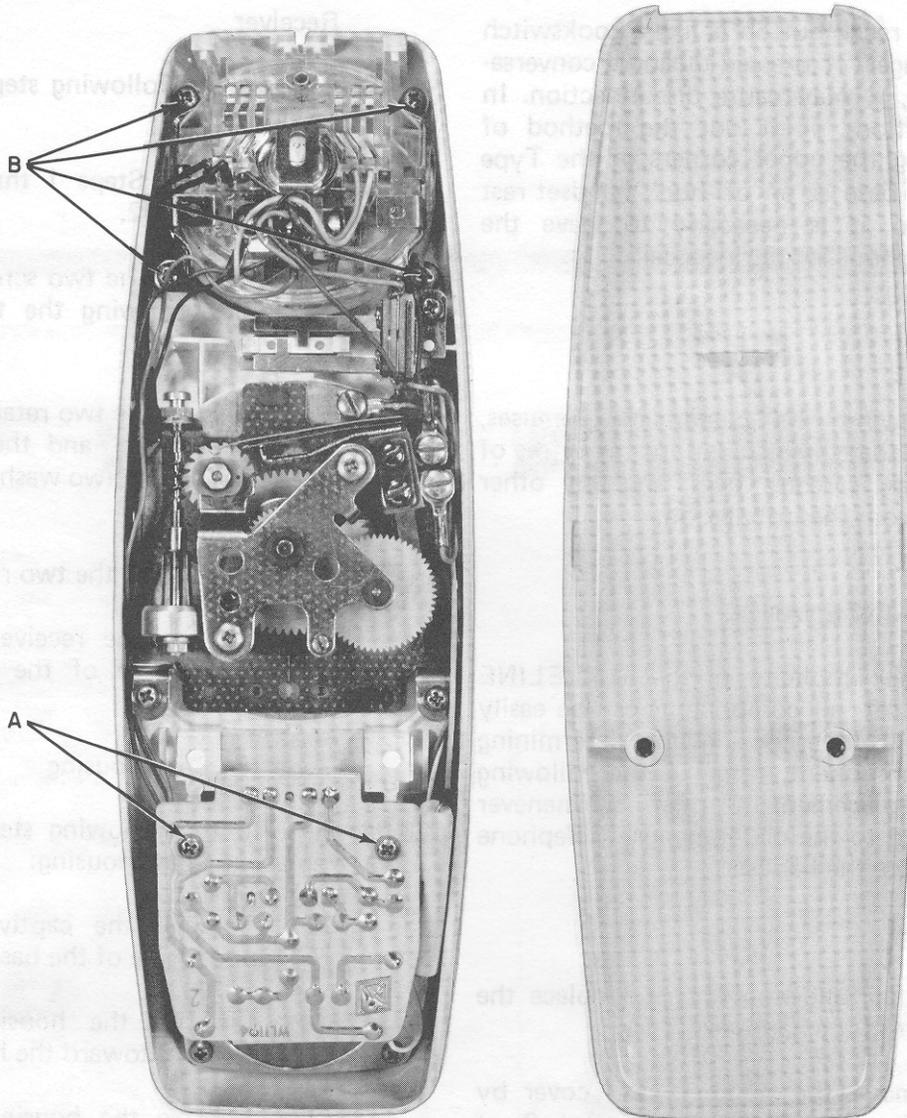

Figure 7. Type 980 Handset with Shell Removed.
- (1) Remove the number card cover by performing Steps 1, 2, and 3 of Paragraph 4.02.
- (2) Remove the number card to gain access to the two handset shell retaining screws.
- (3) Remove the two retaining screws.
- (4) Remove the handset shell.
- (5) Remove the four retaining screws (B, in Figure 7) and remove the terminal tie points.
- (6) Pull the transmitter cup up and out, and remove the transmitter.
- (7) Replace the transmitter by reversing the preceding procedure.
- (1) Perform Steps 1 through 4 of Paragraph 5.02.
- (2) Remove the two screws (A, in Figure 7) and swing the transmission unit over.
- (3) Remove the two retaining screws from the bracket and the two screws retaining the two washers to remove the receiver.
- (4) Disconnect the two receiver wires.
- (5) Replace the receiver by performing the reverse of the preceding procedure.